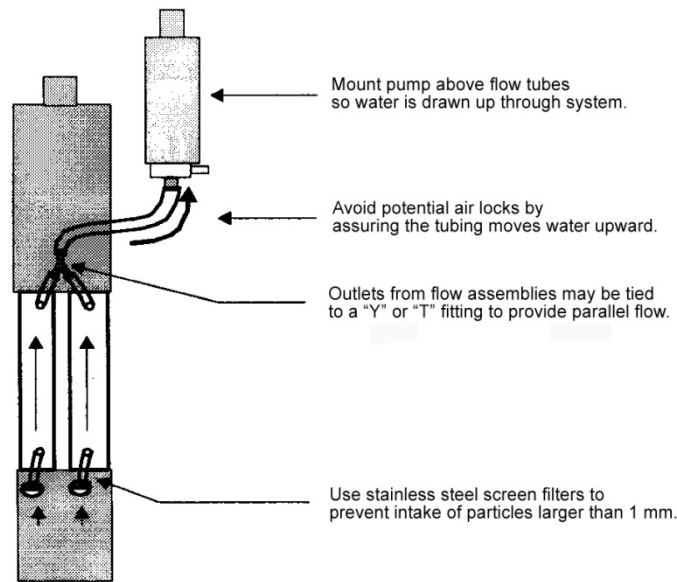

Figure 2. Proper connection of ac-s flow tube
3. Make sure the sensor has an unobstructed upward flow through the flow chambers and the pump (Figure 2).